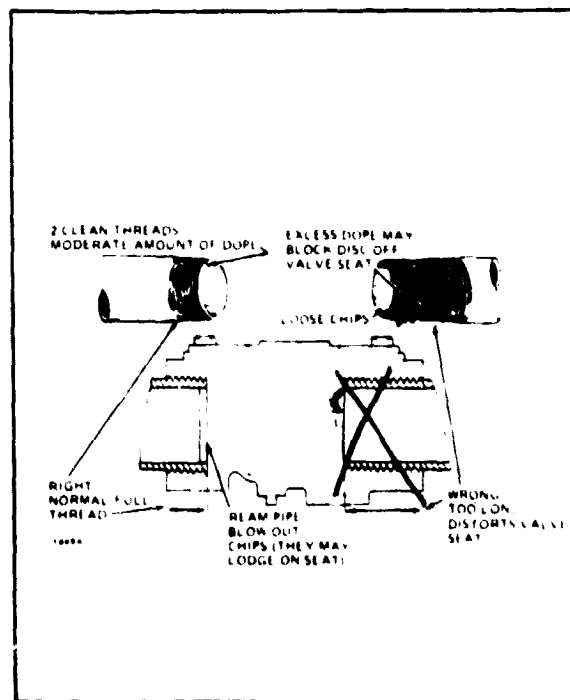
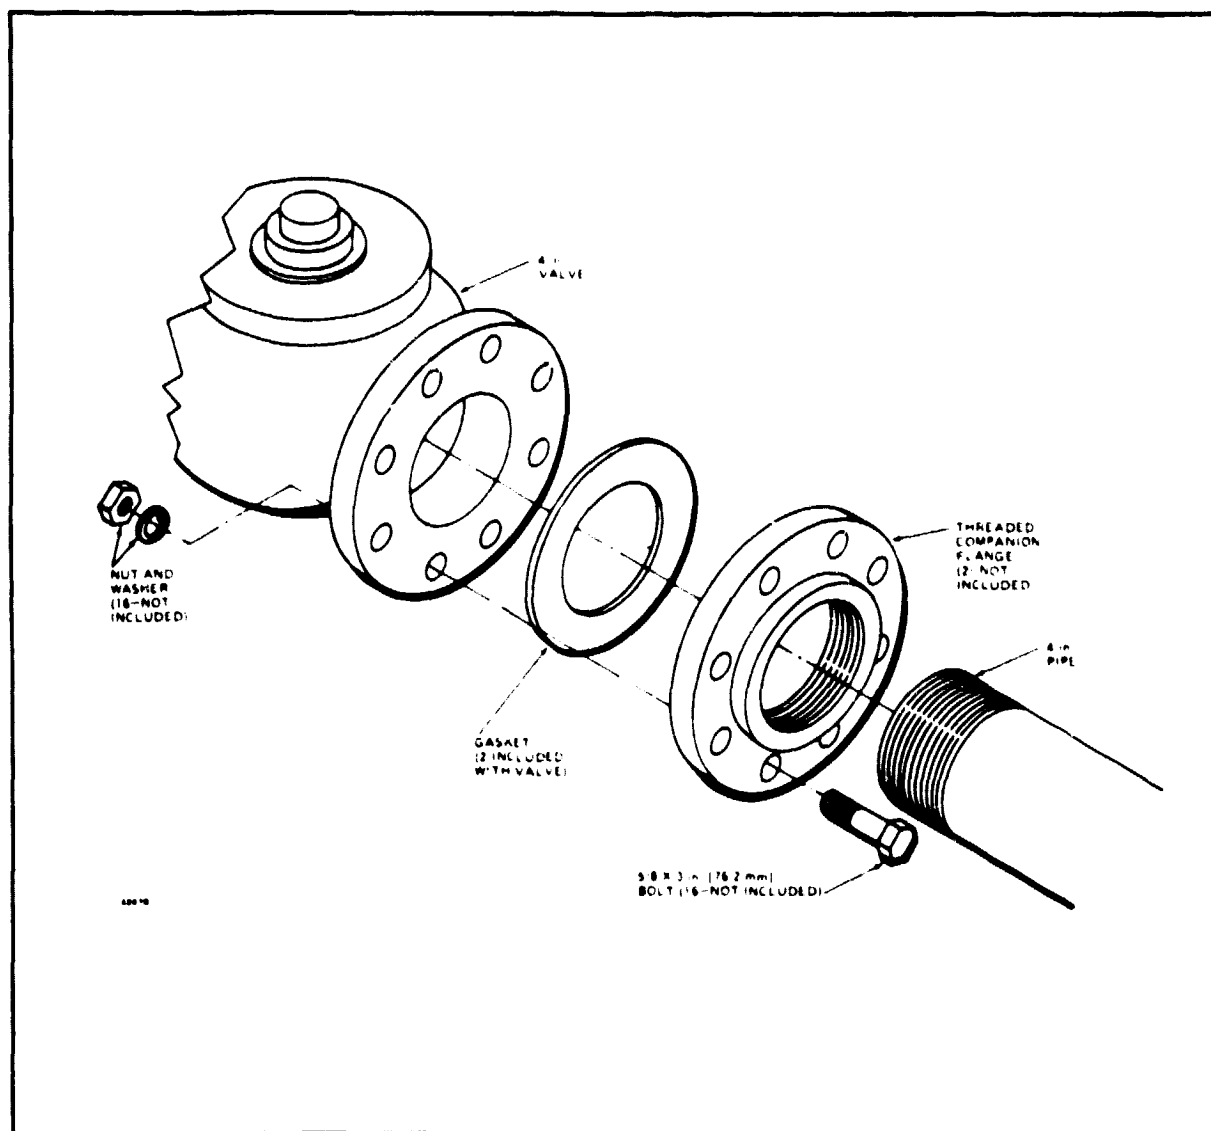

FIG. 4—PREPARING THE PIPES.
FIG. 6—INSTALLING A 4 in. V5055 VALVE.
## MOUNTING (FIGS. 4 THROUGH 6)
2. Do not thread pipe too far (Fig. 4). Valve distortion or malfunction may result from excess pipe in valve.
8. Two threaded companion flanges, 2 gaskets (included with valve), and 16 bolts (with washers and nuts) are required for mounting a 4 in. V5055 valve. Mount a threaded flange and gasket on each end of the valve as shown in Fig. 6. Then screw the pipes into the threaded flanges. Apply dope sparingly, and use wrenches and vises properly as shown in Figs. 4 and 5.